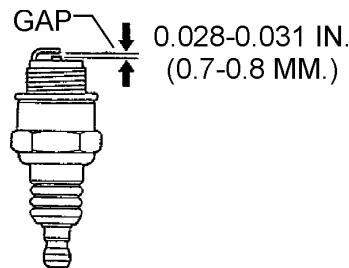

Figure 18. Spark Plug Gap
- Remove and clean the spark plug (Figure 18), then adjust the spark gap to 0.028 ~0.031 inch (0.6~0.7 mm). This unit has electronic ignition, which requires no adjustments.